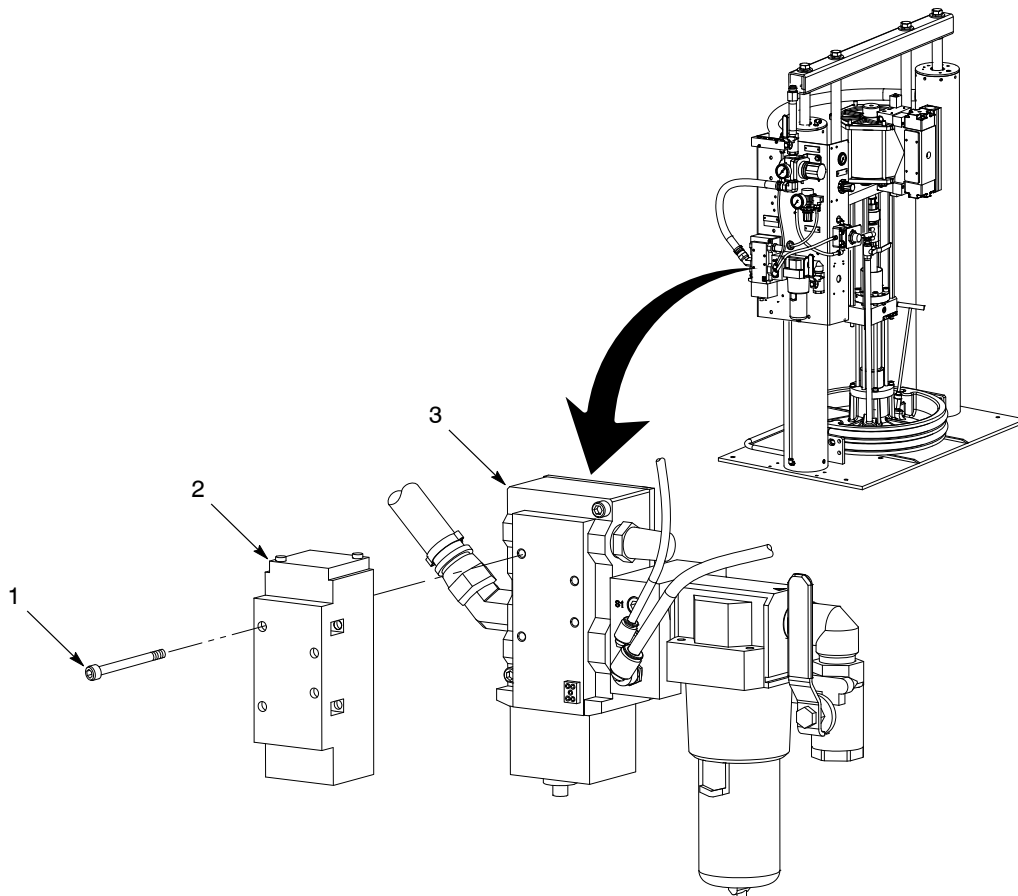

Figure 5 Typical Air Motor Control Valve Installation
1. See Figure 5. Install the desired air motor control valve (2) to the air motor control valve base (3) using the screws (1). Tighten the screws securely.